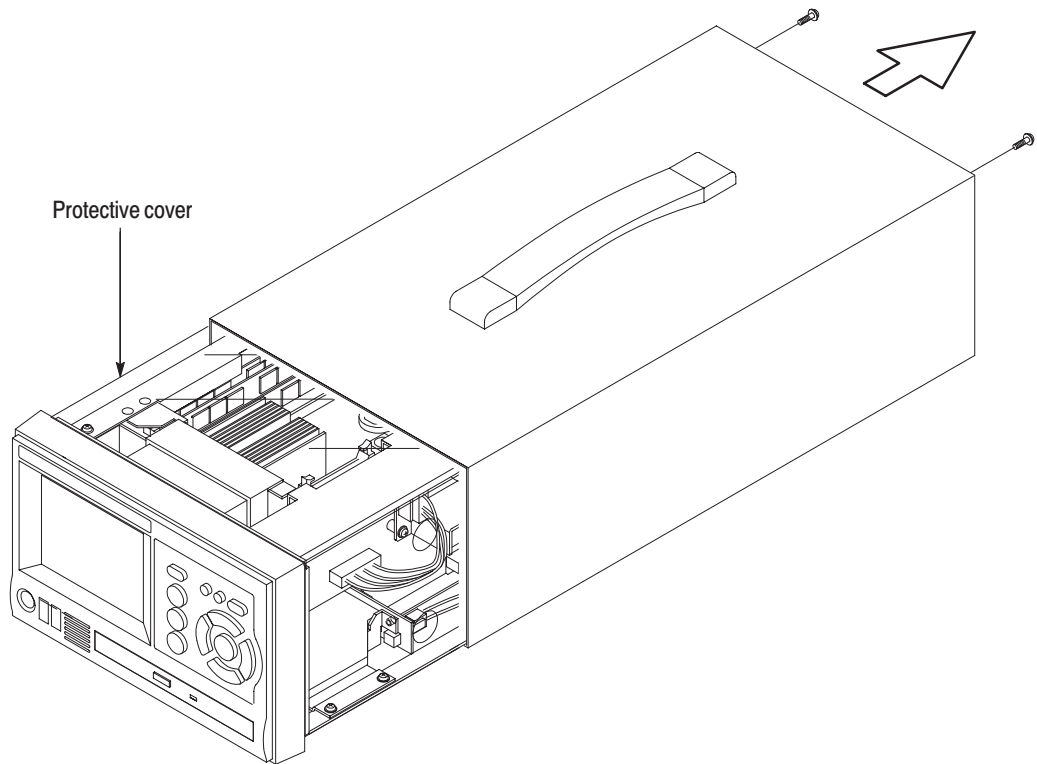

Figure 1: Removing the instrument cabinet
2. Use a screwdriver with a T-15 Torx tip to remove the two screws securing the cabinet to the instrument. See Figure 1.
3. Slide the instrument forward to remove the instrument from the cabinet. See Figure 1.